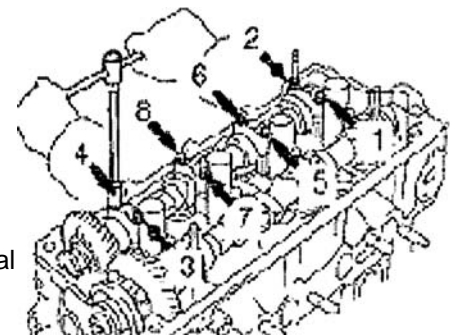

Figure 55
(2) Remove 2 bolts and bearing cap No. 1.
(3) Install the counter gear on the intake camshaft with the service bolt onto the drive gear.
(4) Uniformly loose and detach 8 bearing cap bolts in several times in the sequence shown in Figure 55.
(5) Remove 4 bearing caps and camshaft.